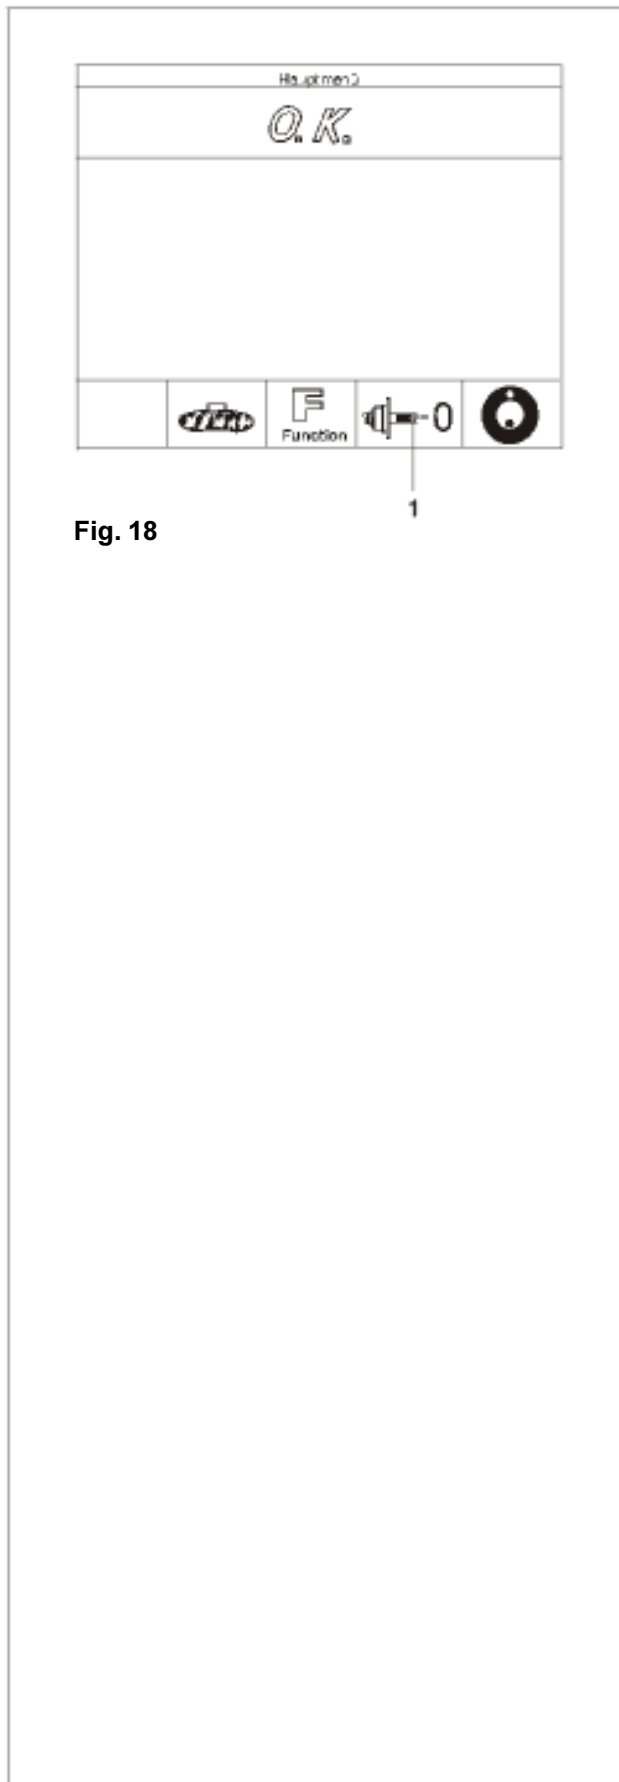

Fig. 18
- Starting from the screen „Main menu,“ (Fig. 18) press the menu key for electrical compensation of unbalance in clamping equipment (Fig. 18, Item 1).